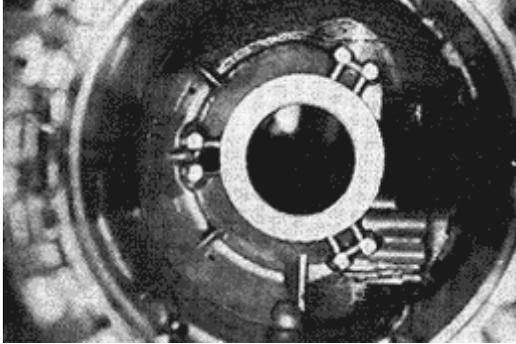

FIG. 1
2. Drive rear case bushing flush with inside of case. (FIG. 1) Replace bushing if worn.